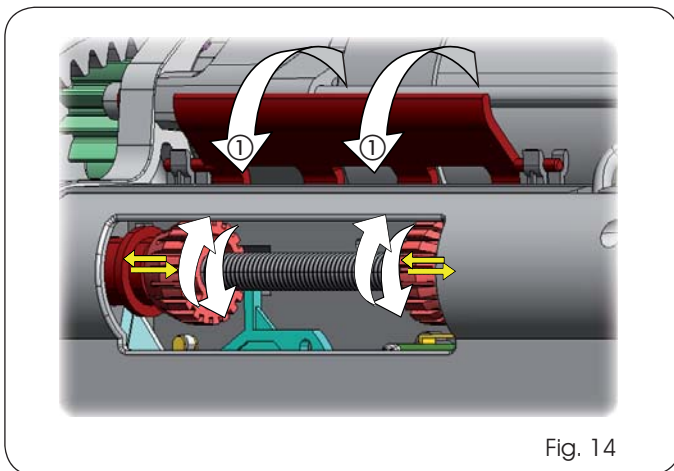

Fig. 14
2. As shown in Figure 14, incline downward and keep inclined the rotation constraint lever (ref. ①) to enable release of the travel-limit devices screws;